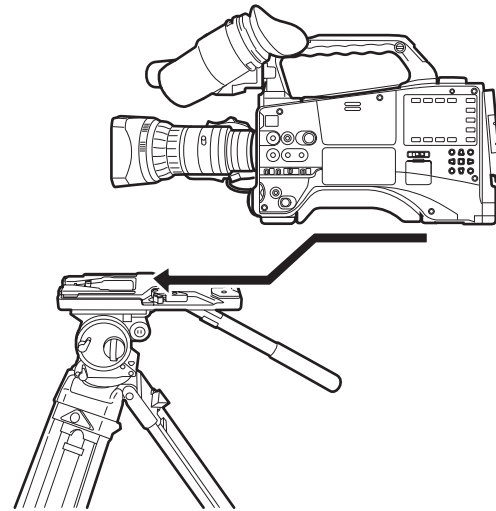

Fig. 2
**2** Mount the camera on the tripod adaptor. (Fig. 2)